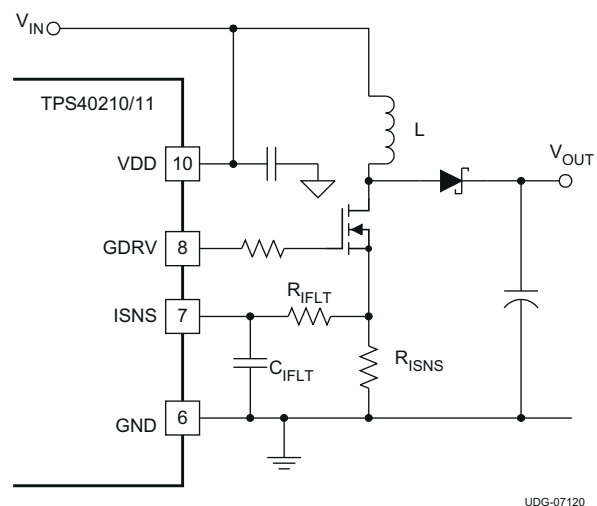

Figure 7-7. Current Sense Components
- $V_{\text{D}}$  is the drop across the diode in Figure 7-7
- $V_D$  is the drop across the diode in Figure 7-7
It is possible to increase the voltage compensation ramp slope by connecting the VDD pin to the output voltage of the converter instead of the input voltage as shown in Figure 7-7. This can help in situations where the converter design calls for a large ripple current value in relation to the desired output current limit setting.
In most cases, a small filter placed on the ISNS pin improves performance of the converter. These are the components  $R_{IFLT}$  and  $C_{IFLT}$  in Figure 7-7. The time constant of this filter should be approximately 10% of the nominal pulse width of the converter. The pulse width can be found using Equation 20.